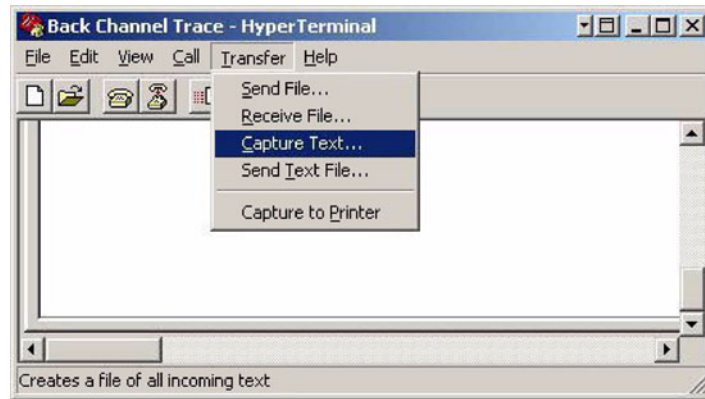

Figure 7 Command Menu
- From the Command Menu, select **Transfer > Capture Text** (Figure 7). These terms may vary from version of the Windows OS that is being used.